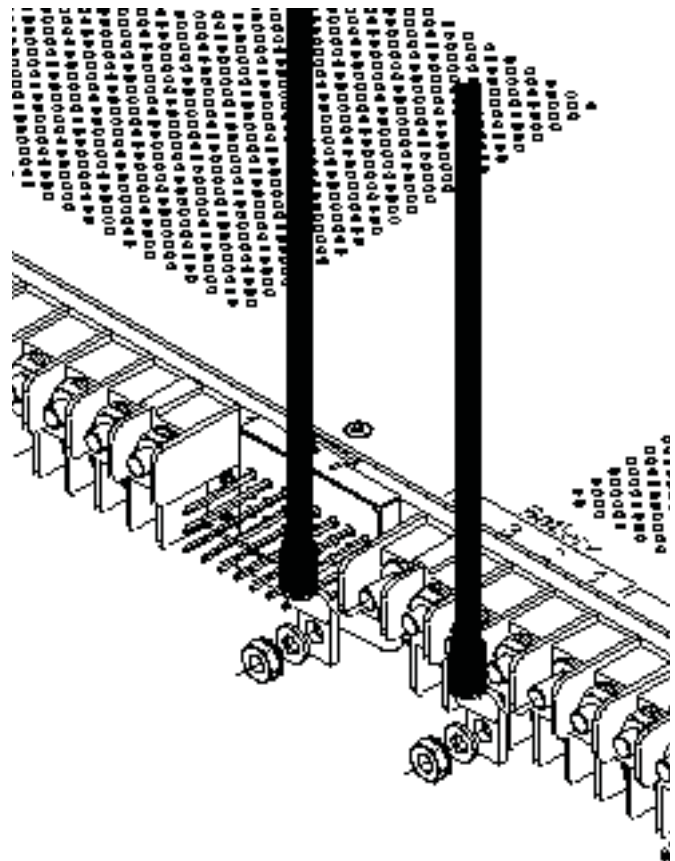

Figure 9 - TPA Output Lug Connections
25. If required, lightly coat anti-oxidant on lugs and output **BATTERY** and **RETURN** terminals, and then connect lug to terminals, as shown in Figure 9.